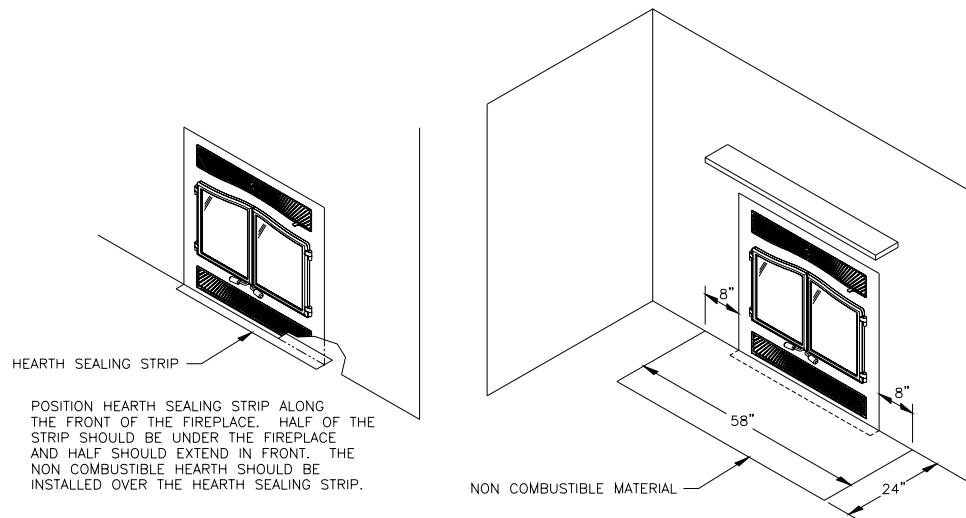

FIGURE 10: INGLENOOK FIREPLACE HEARTH EXTENSION REQUIREMENTS
A combustible floor in front of the fireplace must be covered with tile, marble, stone or any other non-combustible material. Figure 10 demonstrates the vertical relationship between the fireplace, the sealing strip and the hearth extension. **WARNING:** A hearth extension is to be installed only as illustrated in Figure 10 and in conformance with any local building codes. It is recommended that either a sealing strip or sand-cement grout be used between the hearth and the on-site construction hearth extension. Country Flame provides a non-combustible sealing strip for use in the hearth extension. All hearth extensions must have an R-value of 2.0 or greater to ensure proper floor protection. If thermal conductivity (k-factor) or thermal conductance (C-factor) is used instead of thermal resistance (R factor) the use the relationships as follows a) k-factor is given with required thickness (T) in inches as $R = 1/k \times T$ or b) C-factor is given as $R = 1/C$.